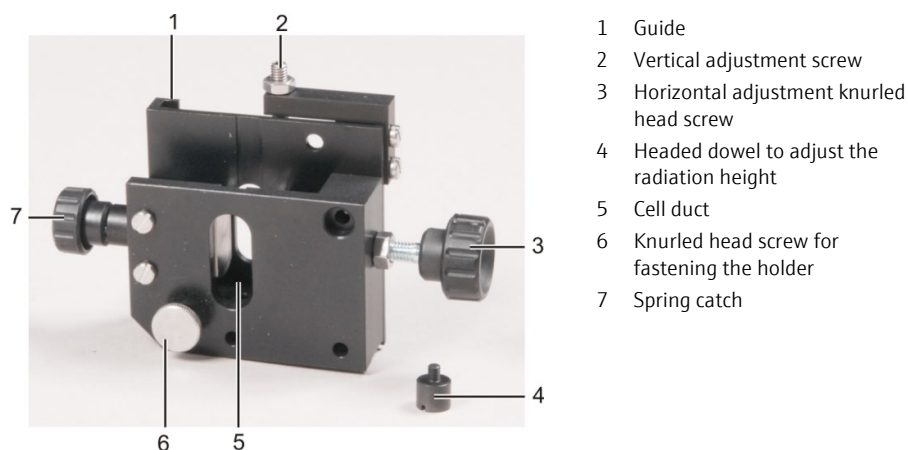

Fig. 20 Adjustable holder for microcells with variable radiation height
10. Insert the cell into the cell holder. Consecutively modify the vertical adjustment (by rotating the adjustment screw 2 in Fig. 20) and the horizontal adjustment (by rotating the knurled head screw 3 in Fig. 20) and each time measure the transmission **with the sample chamber cover closed**. Repeat the process until a maximum transmission value is reached.
11. Tighten the knurled head screw (6 in Fig. 20) to secure the holder relative to the beam path.